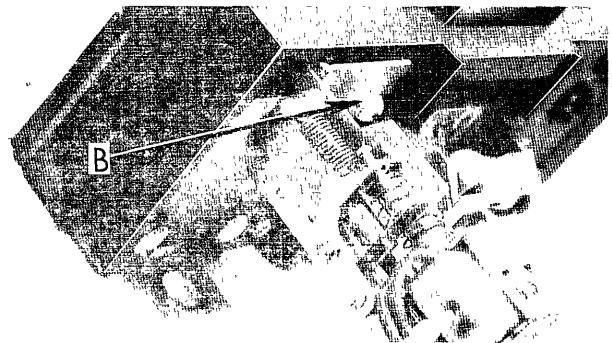

Figure 2
For Type TJ — Figure 2
5. Holding solenoid plunger seated, remove mounting screw B Figure 2, and lift complete device from breaker base.